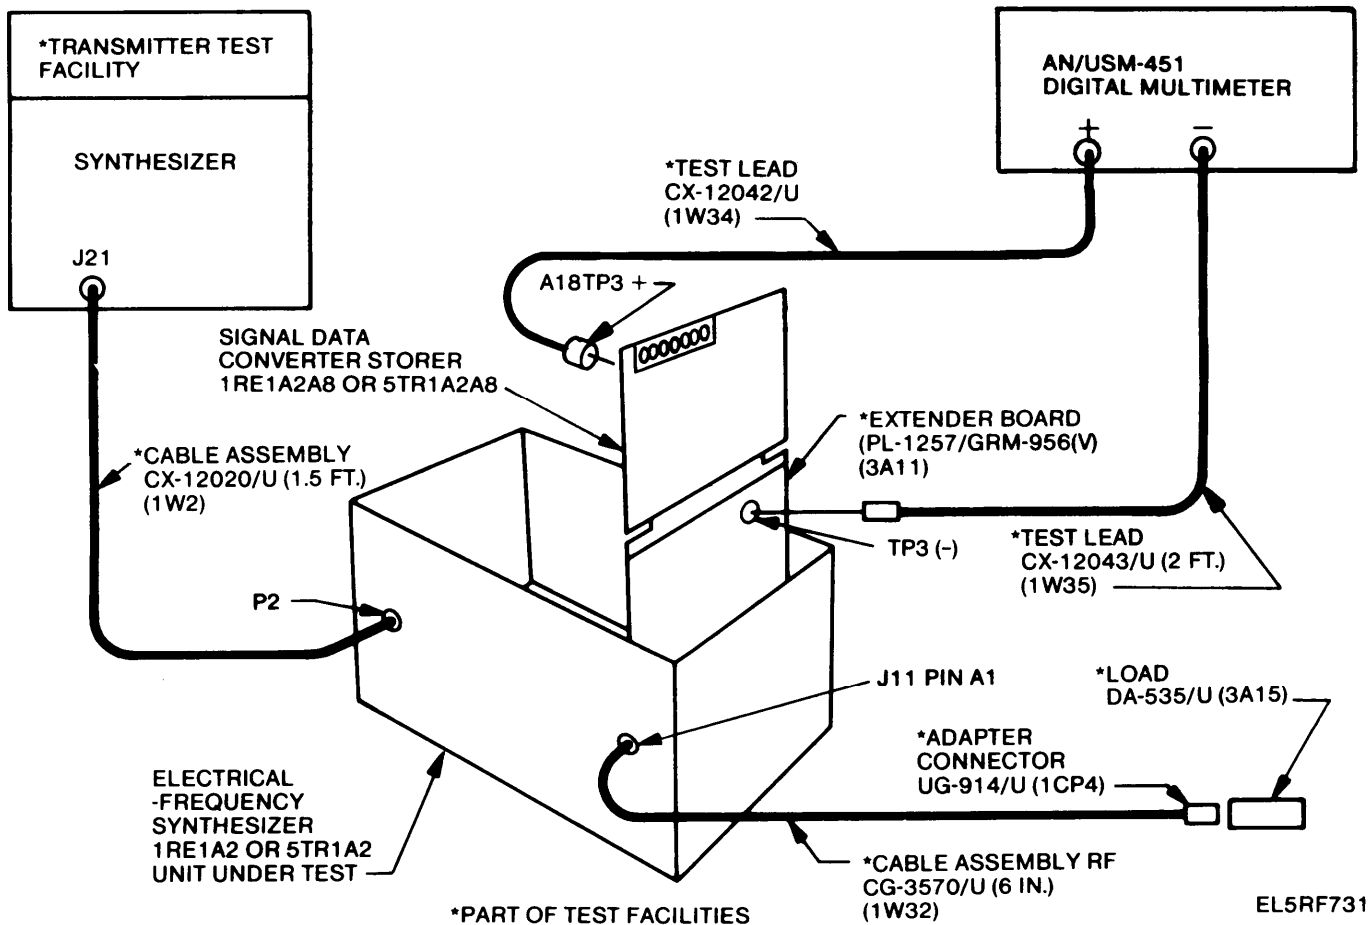

Figure 3-91. Field Effect Transistor Operating Voltage Adjustment, Test Setup.
(a) Extend signal data converter-storer board 1RE1A2A18 or 5TR1A2A19 from the synthesizer, using extender board PL-1257/GRM-95(V) as shown in figure 3-91, and set test facility control switch S17 to ON.